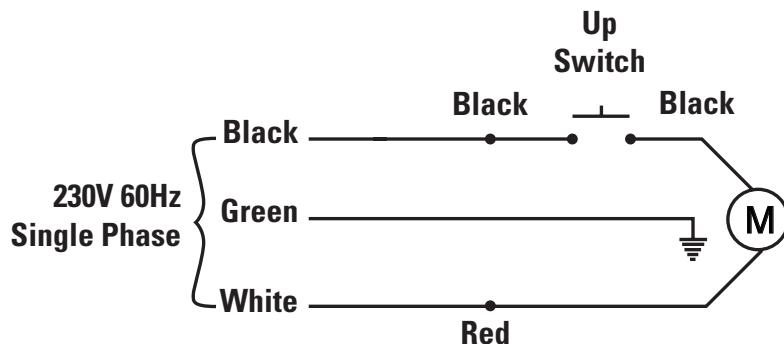

Fig. 5
A. The power unit comes completely wired and ready to plug into a 115 volt, single phase, 60 Hz. Circuit. A six foot, 3-wire power cord with grounding plug is provided. See Motor Operating Data Table, Fig. 5, 5a.
B. Optional 208V-230V operated: Have a certified electrician run 230V single phase 60Hz power supply to 2 HP motor, Fig. 5. Size wire for 20 amp circuit. See Motor Operating Data table.